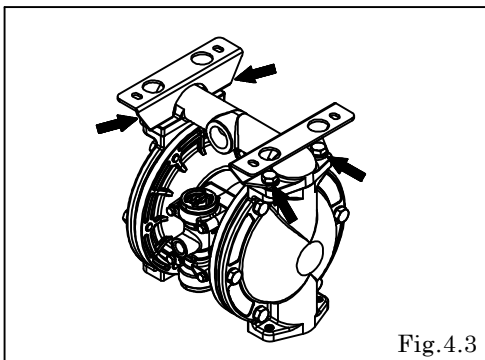

Fig.4.3
- Turn over the main body assembly. [Fig.4.3]
- Remove 4 mounting bolts from lower manifold and remove the base and the manifold. [Fig.4.3]